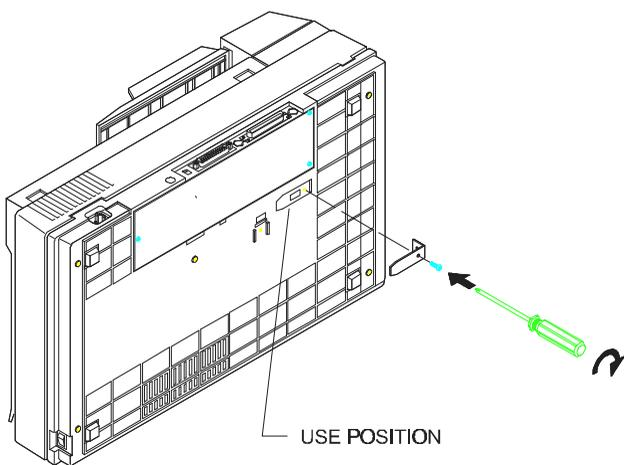

Figure 2-2 Fasten the shipping retainer.
3. Pull out the shipping retainer and put it in the “use position”(See Figure 2-2) and secure it with the screw.